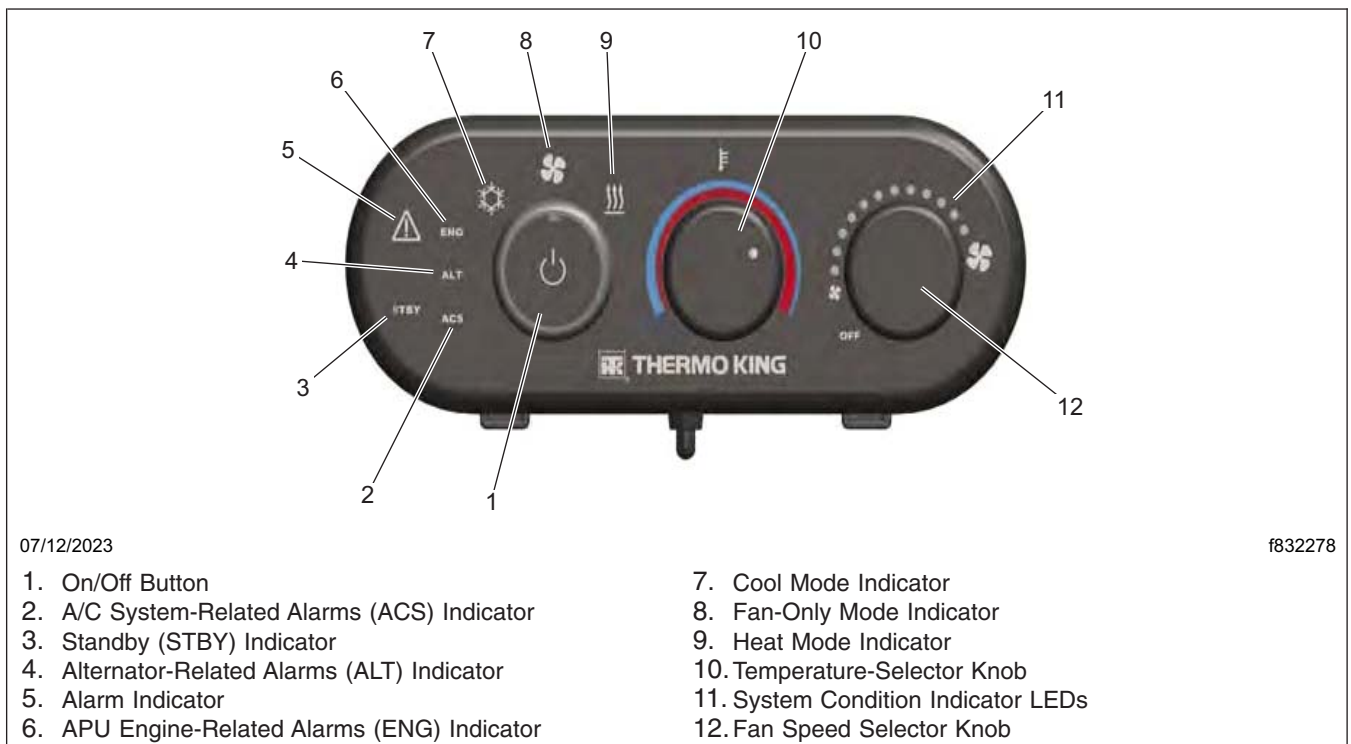

Fig. 18, Thermo King TriPac HMI Controller
26. For vehicles equipped with a **Thermo King® TriPac HMI controller (SF664B)**, shown in **Fig. 18** :